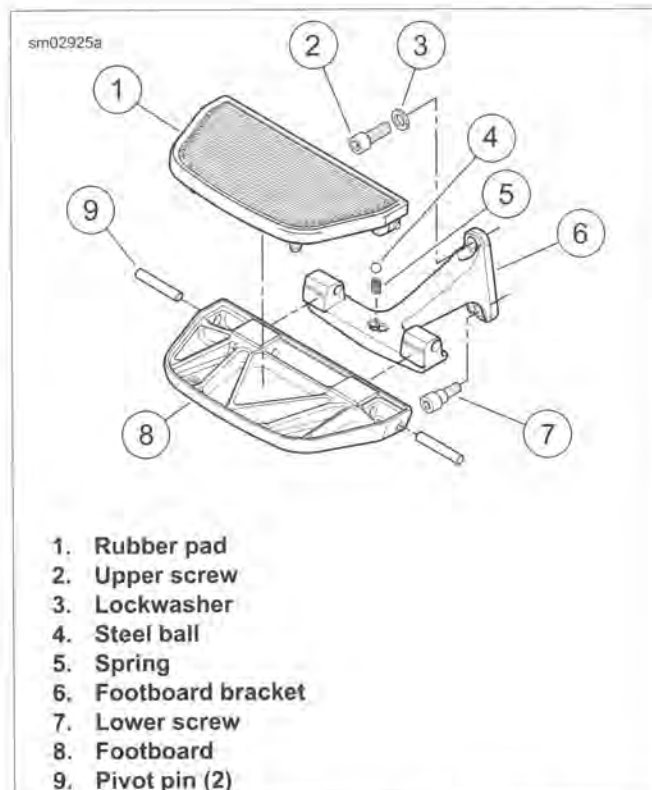

Figure 2-170. Passenger Footboard
See Figure 2-170. Remove screw (2), lockwasher (3), screw (7) and footboard/bracket assembly from frame.
- See Figure 2-170. Use a small flat blade screwdriver to push rubber beads on pad bottom through holes in footboard. Remove pad.
- Using a brass drift and mallet, tap two pivot pins (9) toward center of footboard and remove.
- Remove steel ball (4) and spring (5).
- See Figure 2-170. Place spring (5) and ball (4) into hole in footboard bracket.
- Place footboard into position on bracket and install pivot pins (9) from the outboard side. Using a brass drift and mallet, tap pins until centered in lugs of bracket.
- See Figure 2-170. Secure bracket (6) with screw (2), lockwasher (3) and screw (7).
- Tighten upper screw (2) to 36-42 ft-lbs (48.8-56.9 Nm).
- Tighten lower screw (7) to 48-72 in lbs (5.4-8.1 Nm).